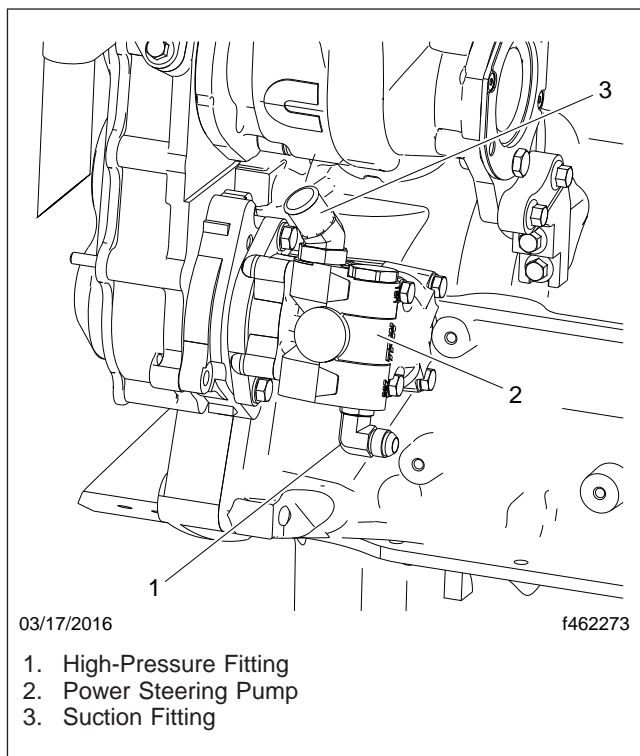
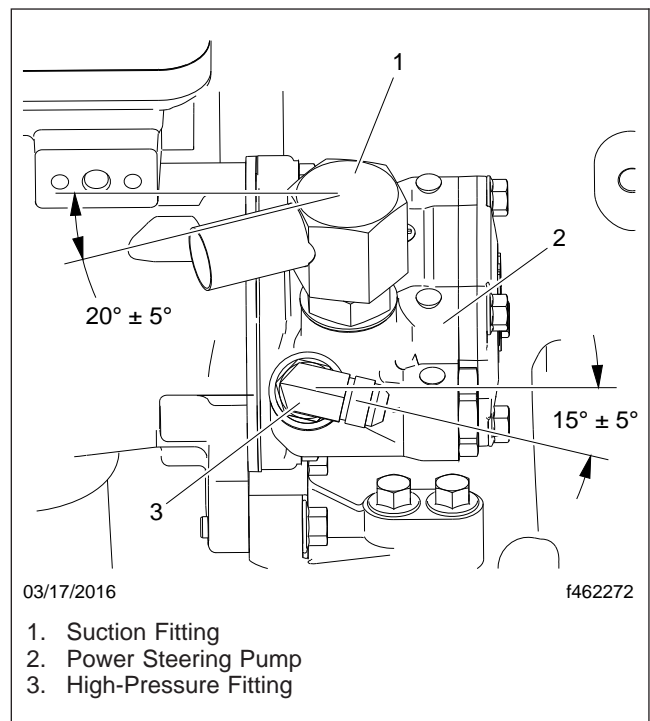

Fig. 1, Steering Pump, Cummins ISX12
Fig. 2, Steering Pump, Cummins ISX15
24. Using the mounting bolts, install the power steering pump. Tighten the mounting bolts 25 lbf-ft (34 N-m). See Fig. 1 and Fig. 2.